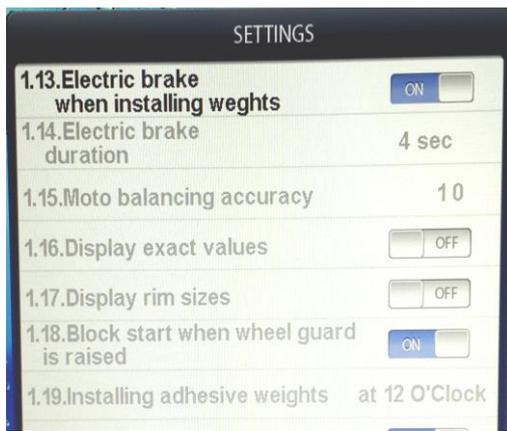

fig. 17.4
17.12. The second page of the parameter setup screen (fig. 17.4.). Use button 5 to swap pages.